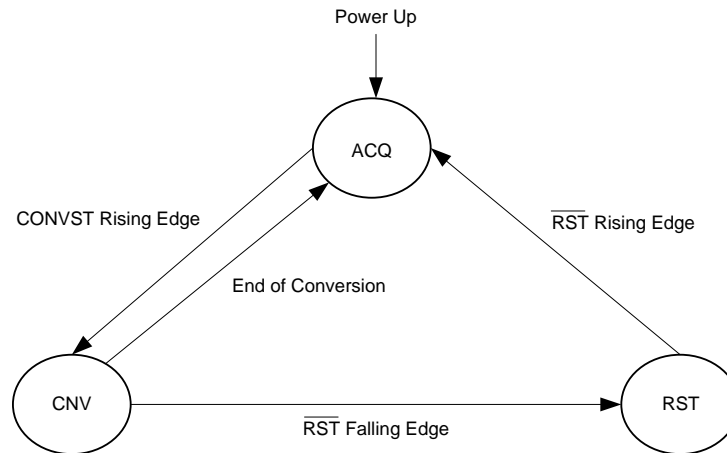

**Figure 41. Interface Module**
The interface module facilitates the communication and data transfer between the device and the host controller. As shown in Figure 41, the module comprises of shift registers (both input and output), configuration registers, and a protocol unit.
- The device takes control of the data bus. As shown in Figure 47, the 20-bit contents of the output data word (see Figure 45) are loaded in to the 20-bit OSR (see Figure 41).
- The 20-bit ISR (see Figure 41) is reset to 00000h, corresponding to a NOP command.
- As illustrated in Figure 47, the 20-bit contents of the ISR are transferred to the command processor (see Figure 41) for decoding and further action.